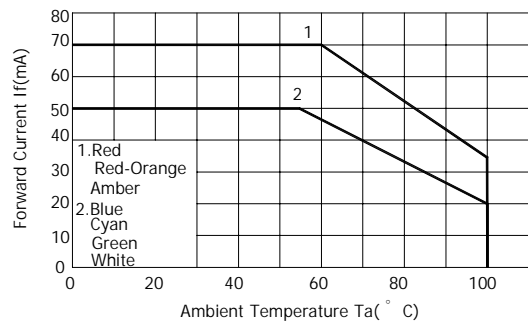

Fig.4 Forward Current vs. Ambient Temperature
2. Derating linear as shown in Fig. 4